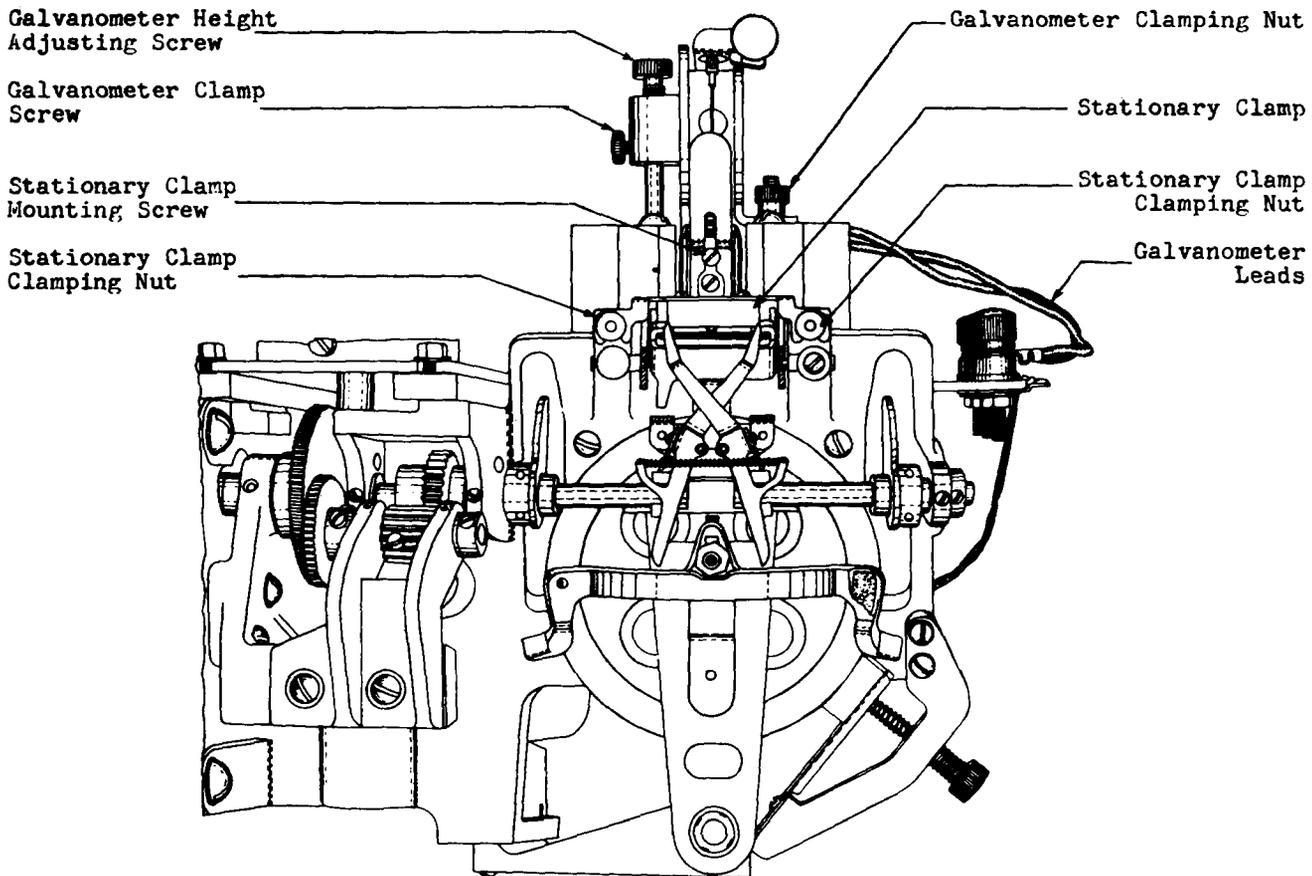
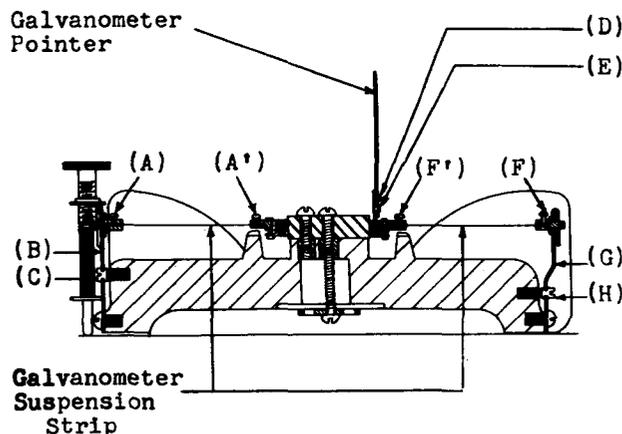

Fig. 25 - Controller Mechanism
Fig. 26
clamping nut (Fig. 25). Loosen the galvanometer clamp screw and loosen the stationary clamp clamping nuts. Slowly lift out the galvanometer by the lug on the left-hand side.
(4) Loosen the stationary clamp mounting screw using the 3-1/2-inch screwdriver, and remove the stationary clamp from the galvanometer.
(5) To replace a broken suspension strip proceed as follows: Hold the suspension binding post with the pair of tweezers and using the size 5 watchmakers screwdriver, loosen the small suspension binding screws (A) (A') or (F) (F'), (Fig. 26) and remove the broken parts. At the base of each of the flat springs (B) and (G) which serve to support and put tension on the galvanometer system, is located a screw (C) or (H) for adjusting the tension. Using the size 3 watchmakers screwdriver, turn the screw (C) or (H) on
(7) Before remounting the galvanometer the stationary clamp should be remounted. Place the support for the clamp on the galvanometer core and tighten the stationary clamp mounting screw so that the edges of the support clamped under the screw are parallel to the edges of the galvanometer moulding.
(8) To remount the galvanometer proceed as follows: Be sure that the straight edges of the sweep cams extend vertically upward so that they will be out of the way while the galvanometer is being remounted. Turn the galvanometer height adjusting screw (Fig. 25) in as far as it will go. Slide the galvanometer down along its guide rods. Unscrew the galvanometer height adjusting screw until the galvanometer pointer just clears the rocker arm clamping wires for a full deflection in either direction. Push the stationary clamp down as far as it will go and secure it in this position by tightening the stationary clamp clamping nuts. Raise or lower the galvanometer system by means of the galvanometer height adjusting screw until the pointer is centered between the stationary clamp and the clamping wires. Tighten the galvanometer
- (1) Care should be taken in working with the galvanometer to insure that the small parts are not strained and that everything is kept clean.
- (2) Stop the controller as described in paragraph 3.04.
- (3) Remove the galvanometer as follows: Disconnect the galvanometer leads at their screw terminals. Remove the galvanometer clamping nut (Fig. 25). Loosen the galvanometer clamp screw and loosen the stationary clamp clamping nuts. Slowly lift out the galvanometer by the lug on the left-hand side.
- (4) Loosen the stationary clamp mounting screw using the 3-1/2-inch screwdriver, and remove the stationary clamp from the galvanometer.
- (5) To replace the galvanometer pointer proceed as follows: Release the tension on the suspension by turning in screw (H) (Fig. 26), using the size 3 watchmakers screwdriver. Hold the galvanometer with the flat back of the moulding against the palm of one hand. Extend the thumb and fingers around the moulding and hold the coil. Carefully loosen screw (E) and remove screw (D), using the size 5 watchmakers screwdriver. Remove the pointer by sliding it away from the coil. Mount the new pointer by sliding the slot in the end of the pointer under the loosened screw (E). Remount screw (D) and tighten both screws only sufficiently to lightly clamp the pointer. Adjust the pointer so that it is at right angles to the plane of the coil and tighten both screws. Adjust the suspension tension as described in paragraph 3.13 (6). Remount the galvanometer as described in 3.13 (7) and (8).